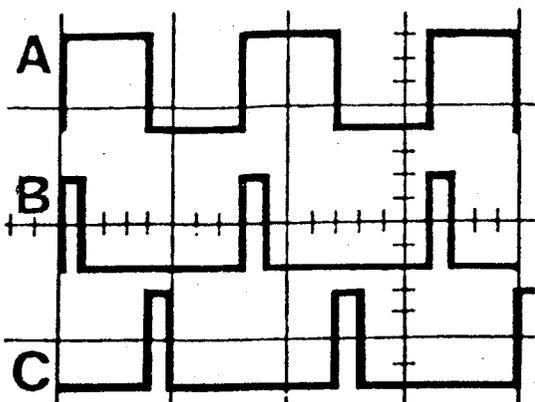

FIGURE 1
- C. In Figure 1 above, "A" is the input to one of the white gating leads.